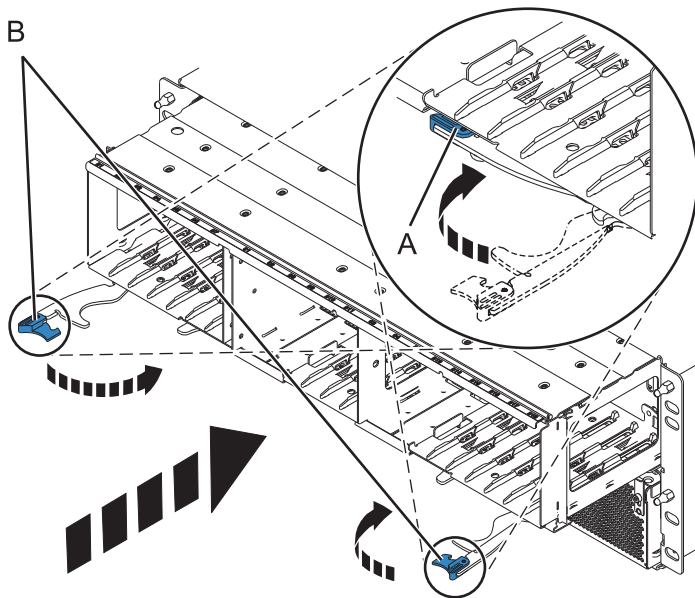

Figure 39. Installing the backplane on a rack-mounted model
3. Using your hand to support the bottom of the backplane or backplane filler, slide it into the expansion unit as shown in Figure 39 or Figure 40 on page 38.